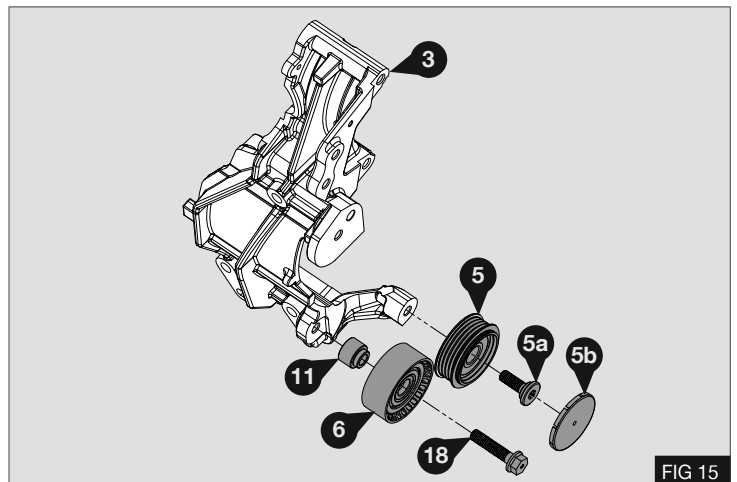
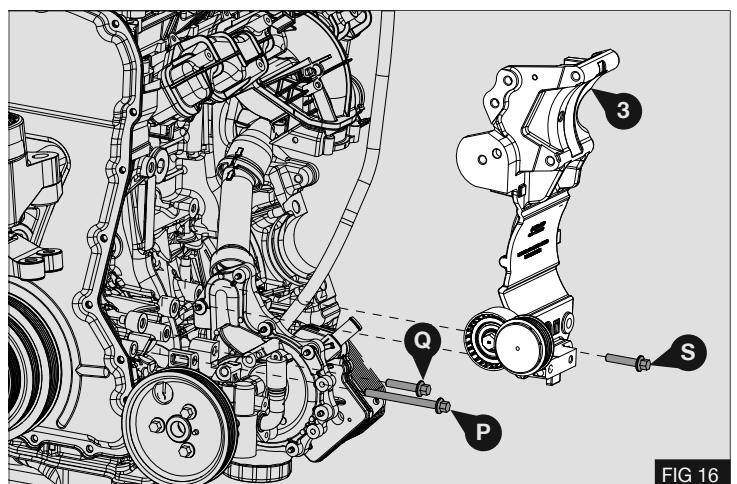

FIG 15
FIG 16
- Assemble pulley (5) onto bracket (3) using Bolt (5a) and pulley cap (5b). Fit idle pulley (6) using M10x35 bolt (18) and spacer (11) - Fig 15
- Torque bolts (5a) and (18) to 44.7Nm / 33Lbft
- Insert bracket assembly (3) (from above) between the PAS pump and the engine block. Ensure locating dowel is correctly seated into the engine block, secure lower part of bracket using the original fasteners (P) (M8x90), (Q) (M8x50) and (S) (M8x45) - **do not tighten at this stage.** - Fig 16
Torque bolts (P) (Q) (S) to 23Nm / 17 Lbft - Fig 16